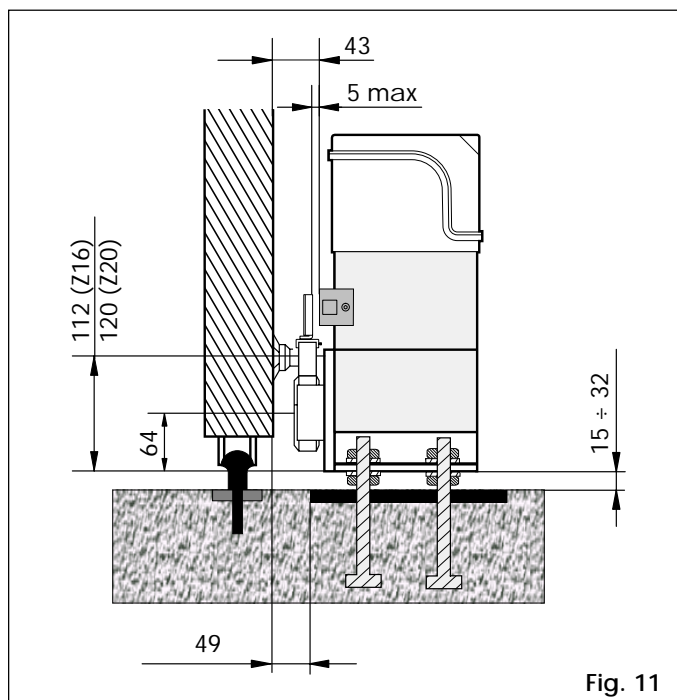

Fig. 11
- 4) Adjust the height of the feet and the distance from the gate as shown in Fig. 11.
- The distance between the limit switch and the travel stop plate must be $\leq 5\text{mm}$ (Fig.11).